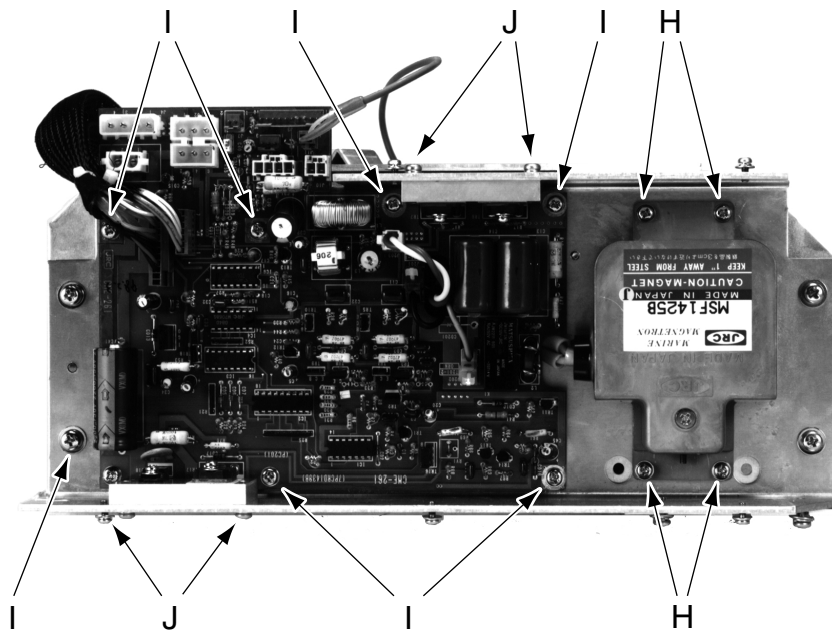

Fig. 8.3 Internal View of Sender of 10kW Scanner Unit NKE-1055
- (9) Remove the four H screws fixing the magnetron, the seven I screws fixing the PCB and the four J screws fixing the IC to remove the magnetron (see Fig. 8.3).
- (10) For remounting the magnetron, follow the opposite procedure.